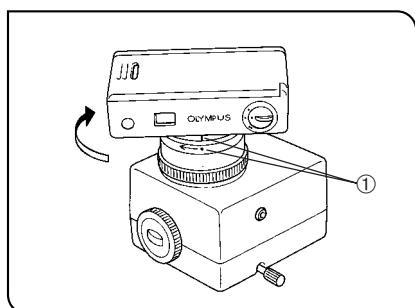

Fig. 3
## 2 Attaching the PM-C35DX Automatic 35 mm Camera Back (Figs. 3, 4)
1. Align the positioning indices ① on the camera adapter and camera back, then turn the camera back clockwise as indicated by the arrow while pressing lightly on its back. The locking pin automatically locks the camera back in place. (Fig. 3)